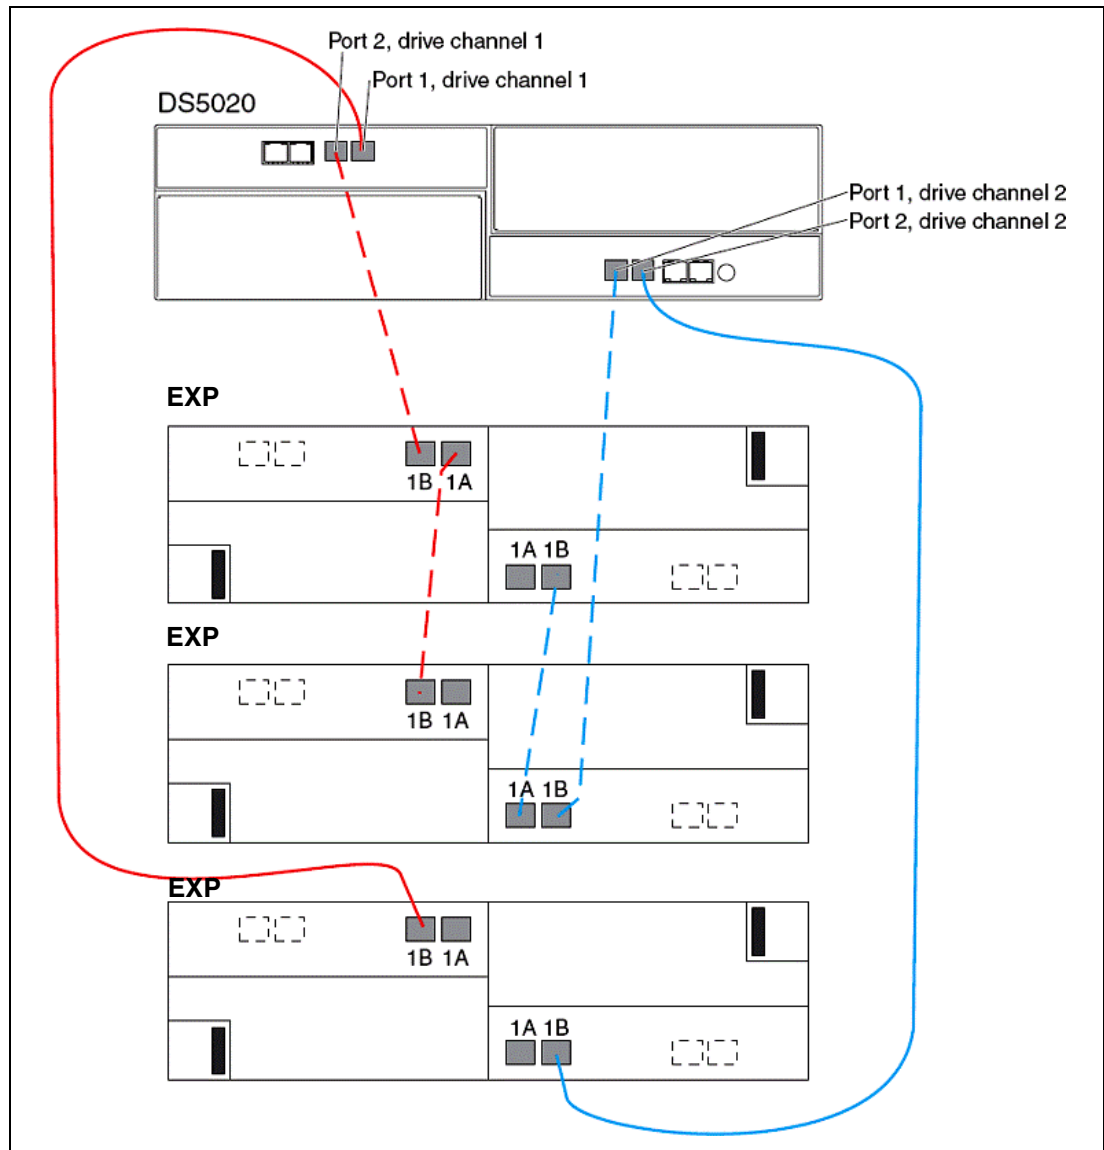
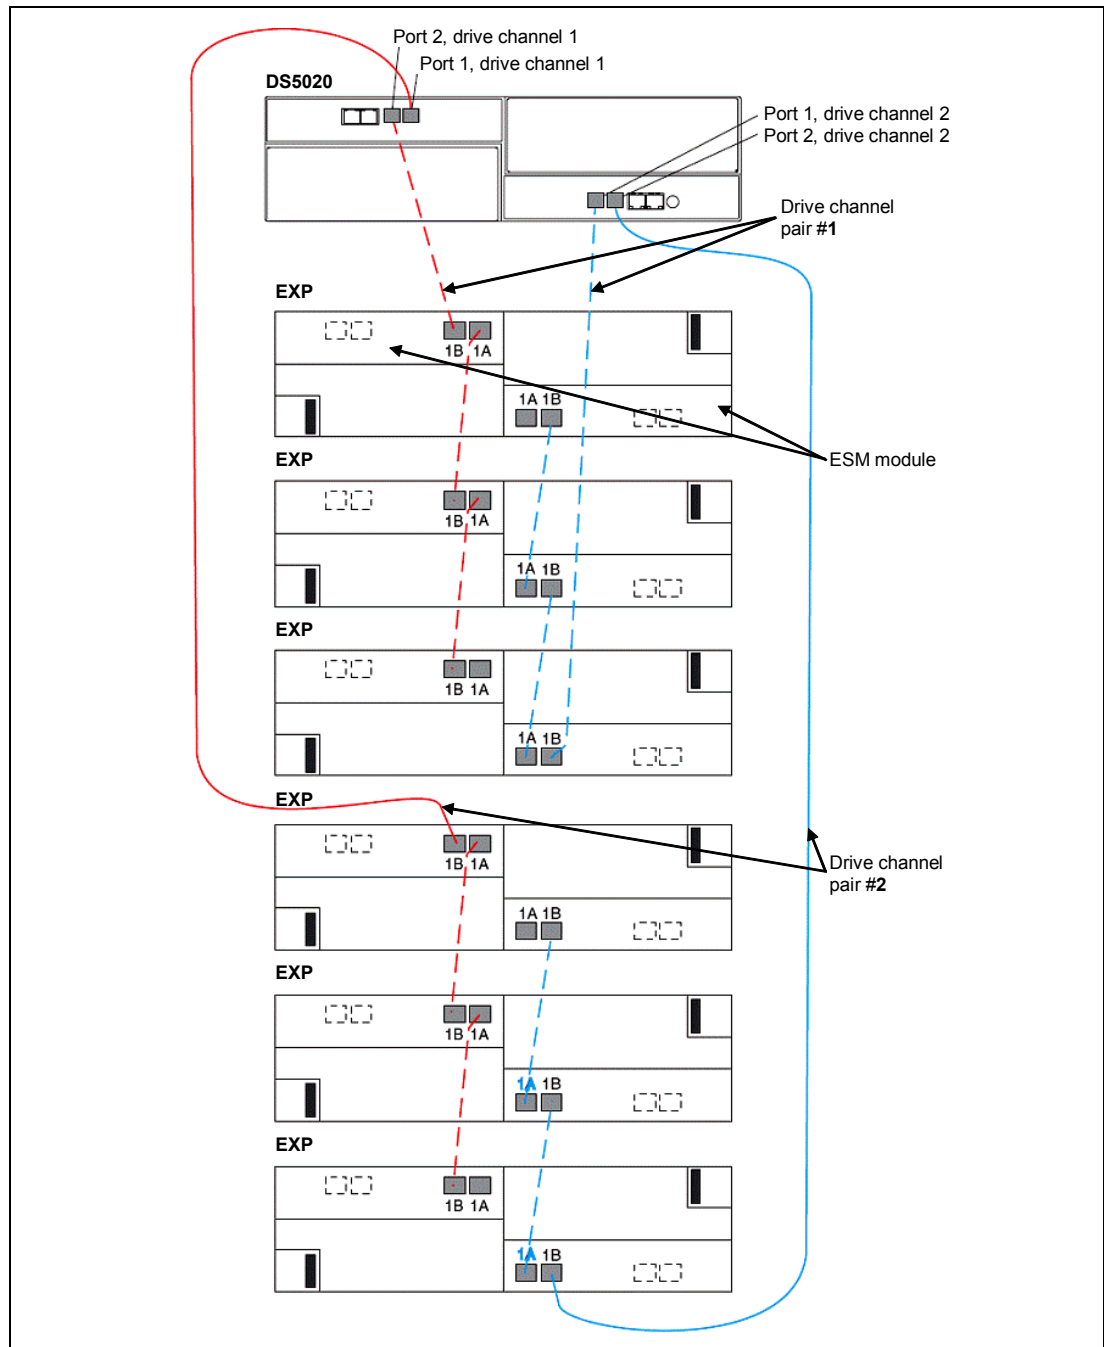

Figure 2-89 DS5020 drive cabling with three EXPs
Figure 2-90 DS5020 drive-side cabling with six EXPs
- Beyond two enclosures (up to a maximum of six), make sure that you equally distribute the enclosures among the redundant drive channel pairs (Figure 2-89 and Figure 2-90).
When six enclosures are required, the same method is employed again, maintaining drive channel redundancy and using both controllers, as shown in Figure 2-90.
As shown in Figure 2-90, the DS5020 is cabled using all two-drive channel pairs, assuming that there are six expansion enclosures (EXP) evenly spread out across the drive channel pairs (three enclosures each).